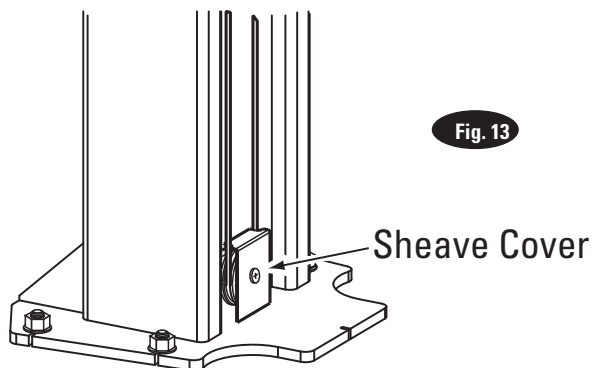

Fig. 13
- B) Run cable from paragraph 4 around overhead sheave and across and down to the opposite carriage, Fig. 14. Install sheave cover, Fig. 13.